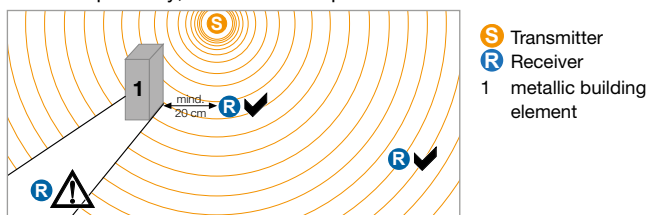

Figure 2: Radio shadow and distances from metallic objects
- Do not position receivers in the radio shadow of metallic building elements if possible, do not install transmitters/receivers behind metallic surfaces or in metallic housings. The areas behind metallic building elements such as piers, ceiling beams and fire doors constitute radio shadows (see Figure 2). Receivers installed in such shadows cannot receive signals over a direct pathway, and have to depend on reflected radio waves.